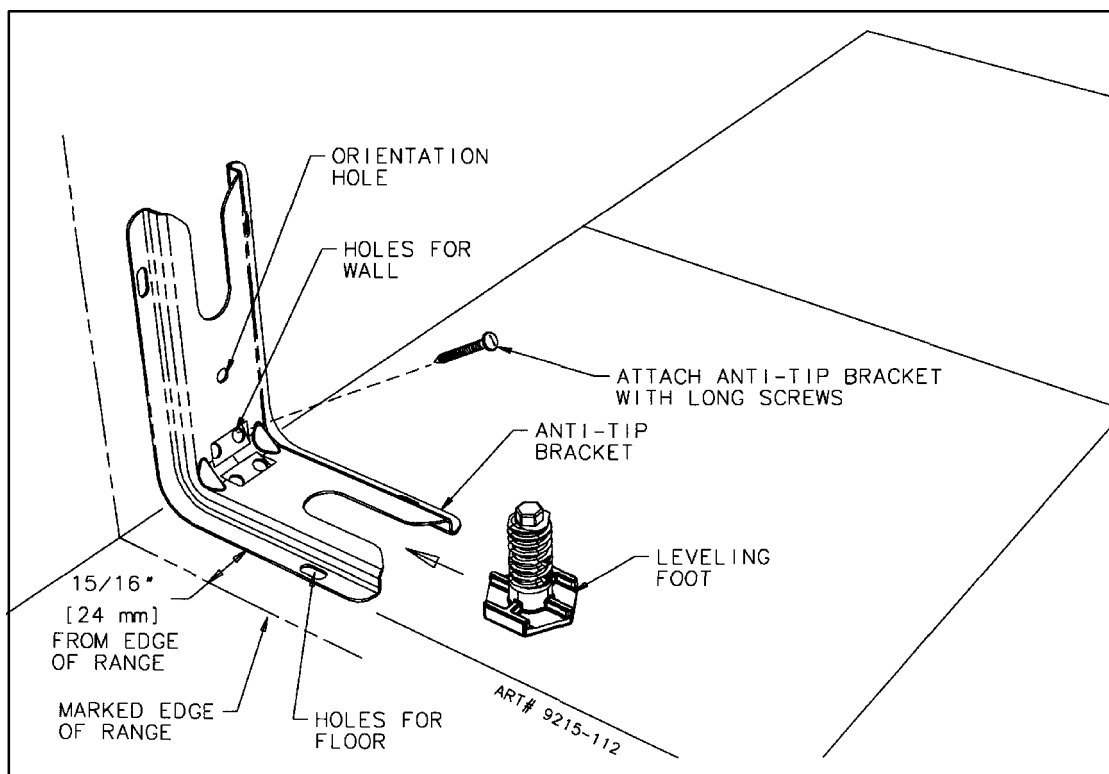
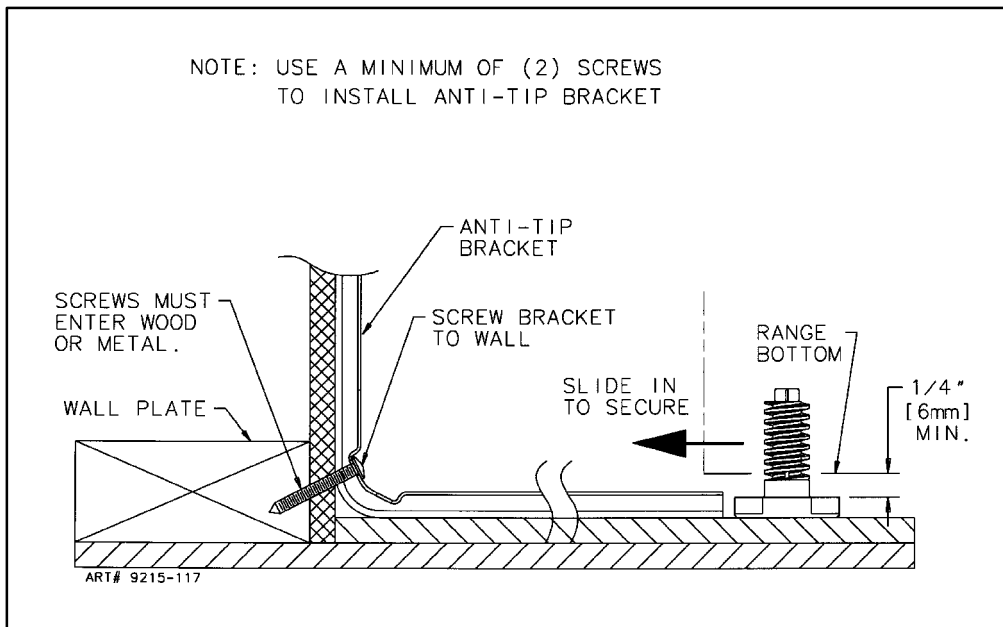

FIGURE 5
FIGURE 6
STEP 1 - Locating The Bracket (See Figure 5)
- Place the BRACKET 15/16" from the marked "EDGE" toward center of opening and against the back wall, as shown in figure 5, with orientation hole against wall.
- Use the bracket as a template and mark the required holes, as shown in figure 5 for the type of construction you will be using.
- Floor:** Locate the center of the two holes identified in figure 5 as "HOLES FOR FLOOR". Drill a 1/8" pilot hole in the center of each hole (a nail or awl may be used if a drill is not available). Secure the ANTI-TIP bracket to the floor with the two screws provided. Proceed to Step 3.
- Wall:** Locate the center of the two holes identified in figure 5 as "HOLES FOR WALL". Drill an angled 1/8" pilot hole in the center of each hole as shown in figure 6. (A nail or awl may be used if a drill is not available). Secure the ANTI-TIP bracket to the wall with the two screws provided as shown in figure 6. Proceed to STEP 3.
- Suitable screws for concrete construction can be obtained at the hardware store. Drill the required size hole for the hardware obtained into the concrete at the center of the holes identified in figure 5 as "HOLES FOR FLOOR". Secure the ANTI-TIP bracket to the floor. Proceed to STEP 3.
- B. Align the range to its designated location and slide it back into position. Note: A minimum clearance of 1/4" is required between the range and the leveling foot that will engage the ANTI-TIP bracket, see figure 6.